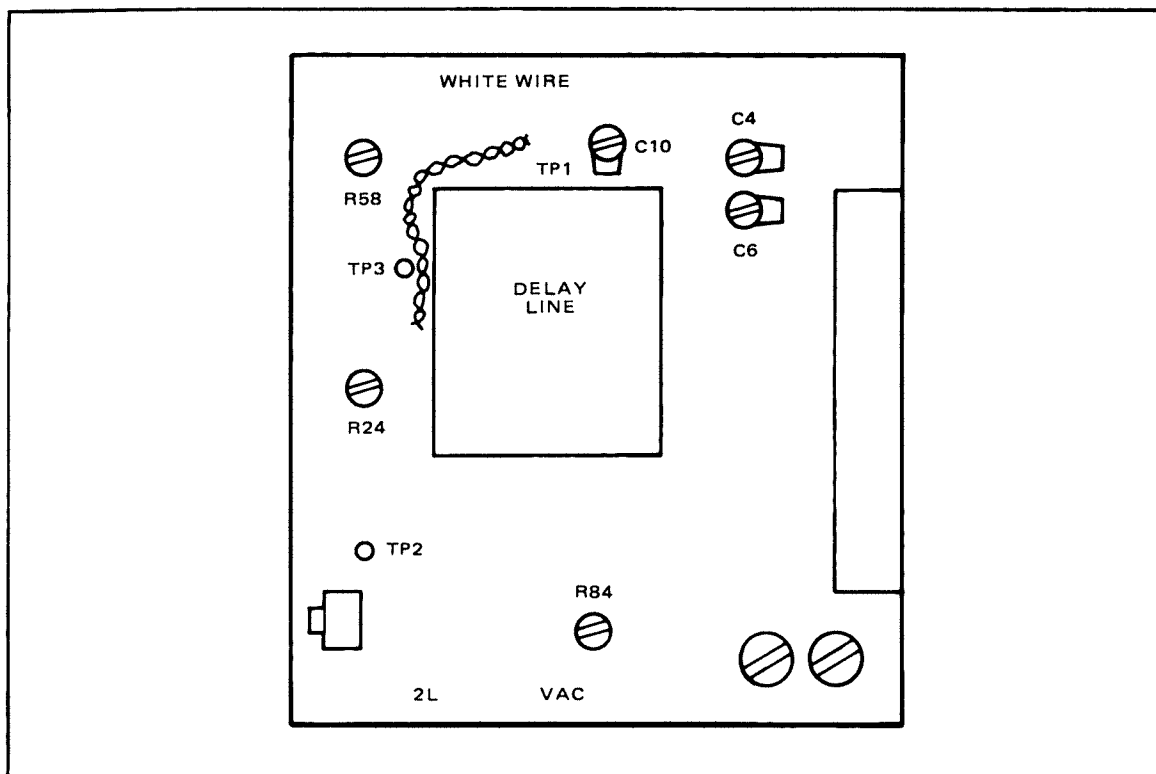

Figure 5-29. Two-Line Vac PWA
STEP 1 Remove Two-Line Vac PWA (Figure 5-29) from motherboard and insert the extender board. Connect Two-Line Vac PWA on the extender.